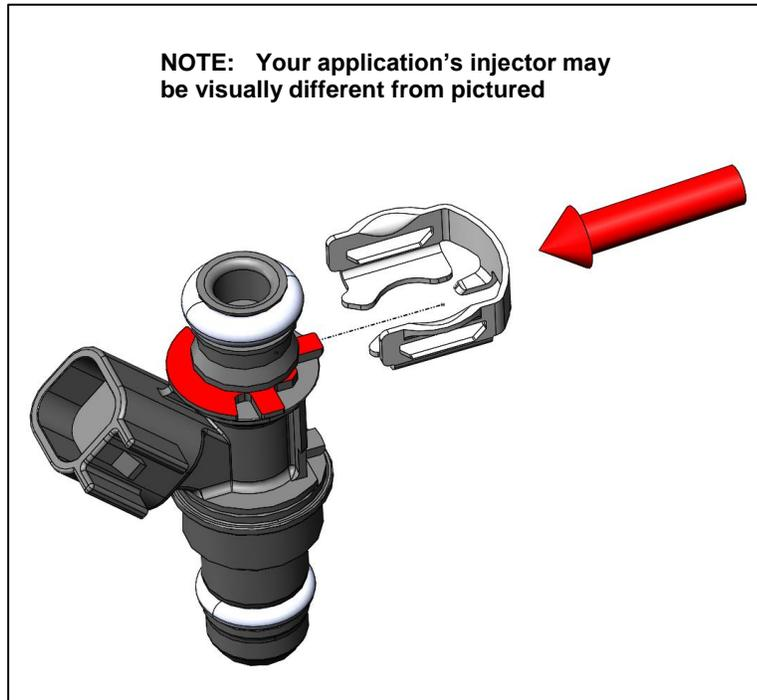

Figure 2
15. Insert the retaining clips removed in step 9 into the grooves on each injector (**Figure 2**).